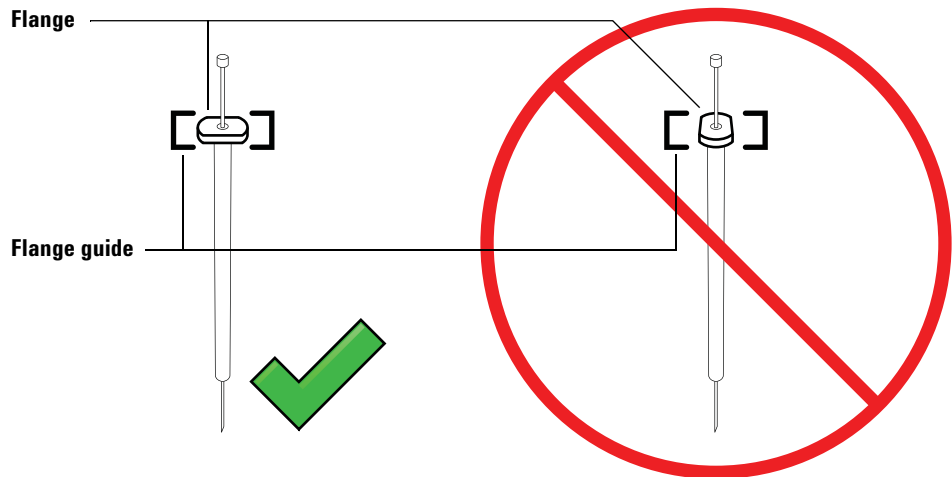

Figure 63 Syringe flange orientation
- 7 Align the syringe flange with the flange guide and press the syringe into place, keeping the needle end in the guide hole of the needle support foot. Make sure that the flat edge of the syringe flange faces out (Figure 63).